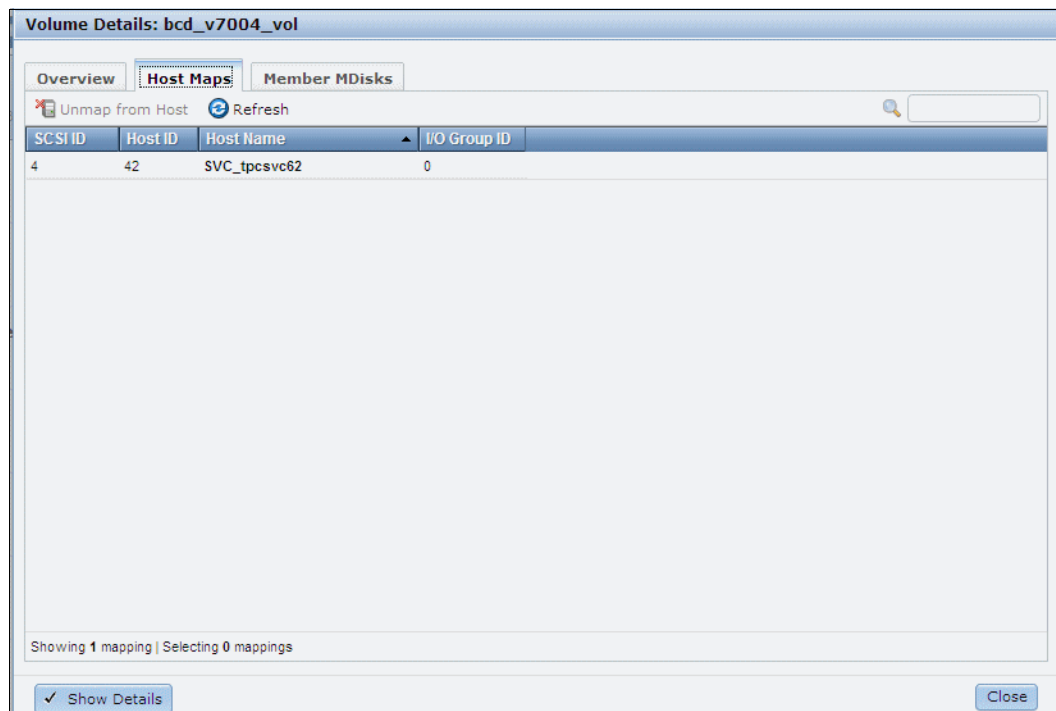

Figure 5-10 Storwize Volume Details for Host Maps
2. On the Host Maps tab (see Figure 5-10), check the SCSI ID number for the specific volume. This value is used to match the SAN Volume Controller ctrl_LUN_# (in hexadecimal format).